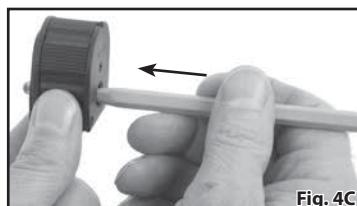

Fig. 4C
3. Push the bullets/pellet present at the loading port through the back of the magazine with a rod as shown in Figure 4C.